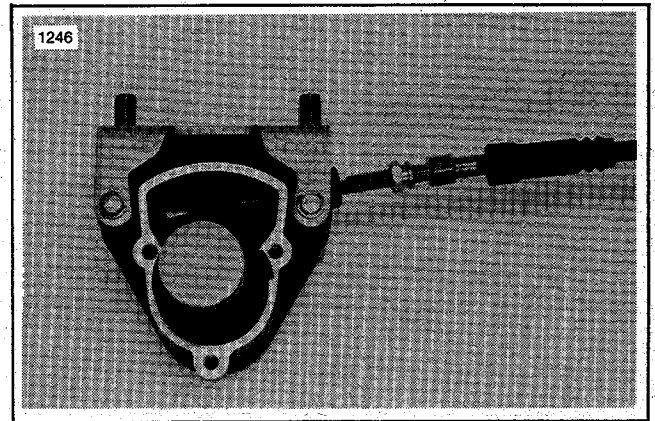

Figure 2-16. Preparing to Remove End Pin
- Lift ratchet gear and arm assembly from floating brake puck and turn assembly so cable protrudes through cable end pin (Figure 2-16).